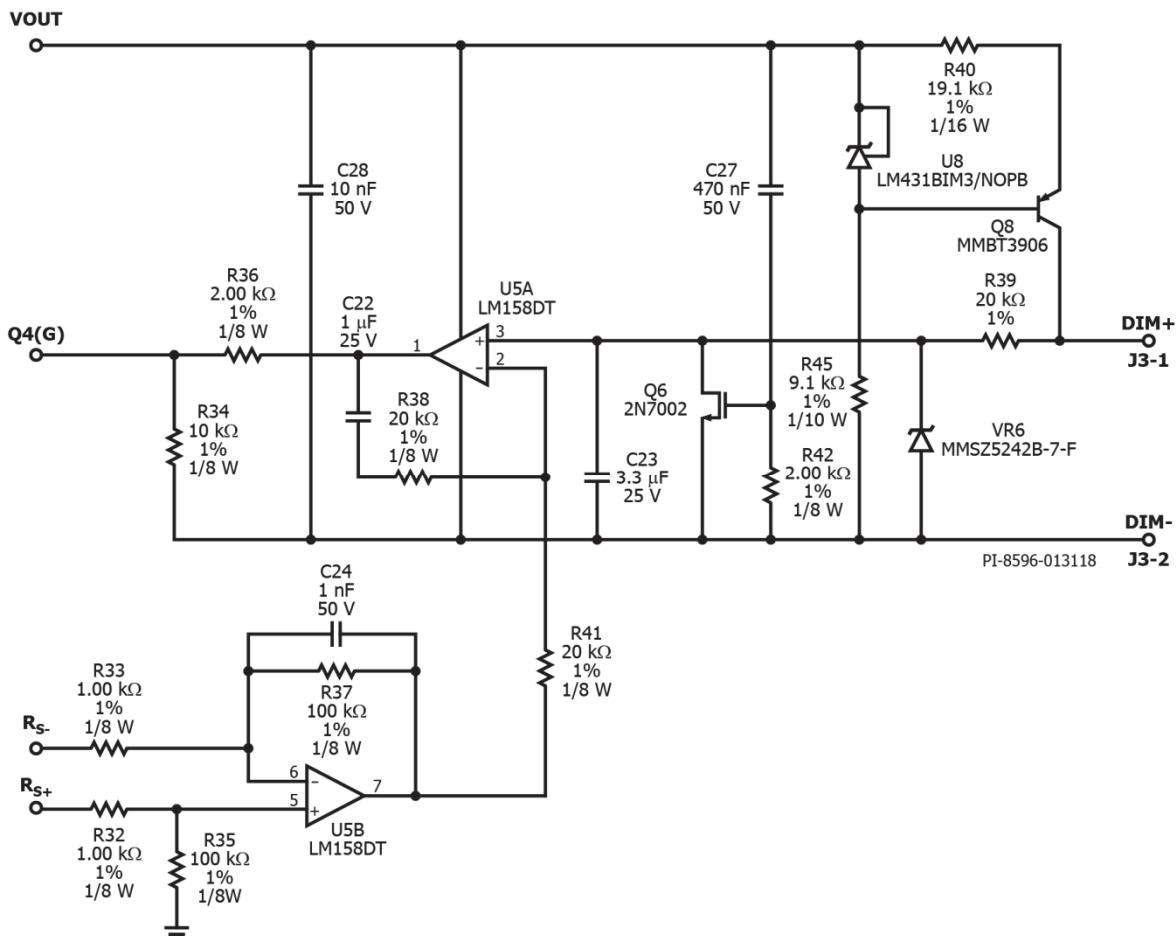

Figure 9 – 3 Way Dimming Circuit Diagram.
The simplified 3-way dimming control circuit with series MOSFET is shown in Figure 9. The idea is to vary the constant current (CC) point of the DCDC output section by varying the total sense resistance seen across IS (pin 1) and GND (pin 2) of U4 (LYTswitch-6 IC). This is done by varying the ohmic resistance across drain-to-source of Q3 depending on the set voltage, PWM duty cycle, or resistance across the dimming input terminals, DIM+ and DIM-. IC U5 is a dual op-amp. The first op-amp, U5A, monitors the voltage from the dimming input and compares it with the voltage coming from the second op-amp, U5B, which serves as reference by providing output current information. IC U5B is configured as a differential amplifier which monitors the level of the output current I_{OUT} . The following considerations are made to simplify the voltage equation at pin 7 of U5B (V1):